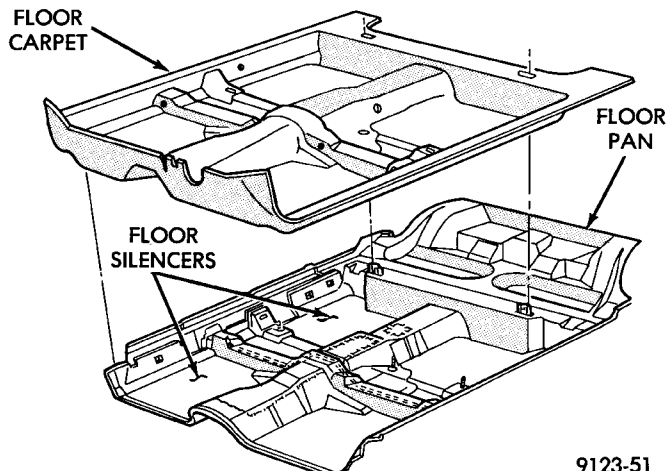

Fig. 68 Carpet
- (1) Remove front seats.
- (2) Remove rear seat cushion.
- (3) Remove bolts holding front seat belt lower anchors to floor (Fig. 68).
- (4) Remove door sill trim covers.
- (5) Remove cowl trim covers.
- (6) Remove center floor console.
- (7) Remove trunk release assist handle.
- (8) Remove lower fasteners from B-pillar trim panel.
- (9) Pull carpet from behind trim panel.
- (10) Fold carpet in half toward rear seat.
- (11) Remove carpet through rear door opening.